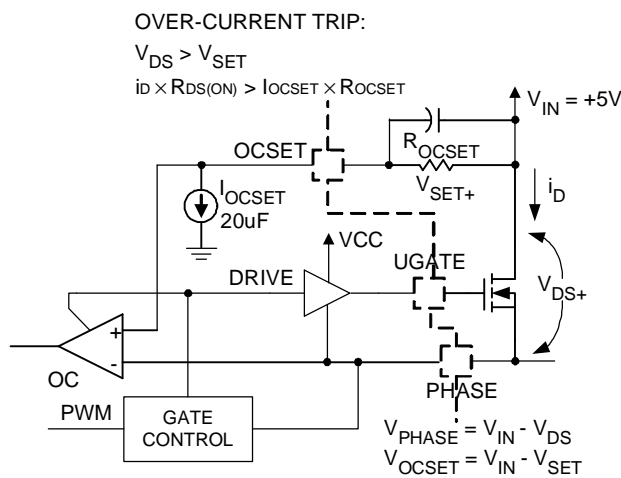

Figure 3
The over current protection (OCP) function of the RT9202B is triggered when the voltage across the  $R_{DS(ON)}$  of upper side MOSFET that developed by drain current exceeds over-current tripping level. An external resistor ( $R_{OCSET}$ ) programs the over-current tripping level of the PWM converter. As shown on Figure 3 the internal  $20\mu\text{A}$  current sink ( $I_{OCSET}$ ) develops a voltage across  $R_{OCSET}$  ( $V_{SET}$ ) that is referenced to  $V_{IN}$ . The DRIVE signal enables the over-current comparator (OC). When the voltage across the upper MOSFET ( $V_{DS(ON)}$ ) exceeds  $V_{SET}$ , the over-current comparator trips to set the over-current latch.